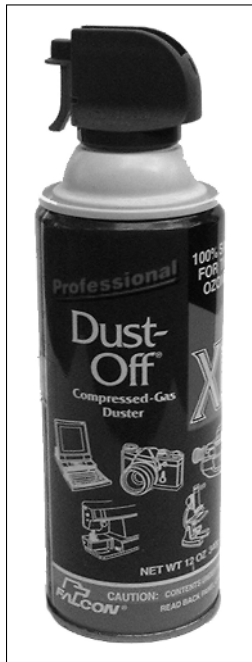

Figure 3-7: Canned air? You bet, and it's great for blowing dust and dirt off delicate electronics.
- ✓ **Compressed air:** You can remove dust from delicate electronic innards with a shot of compressed air. You can buy compressed air in cans, such as the one in Figure 3-7.